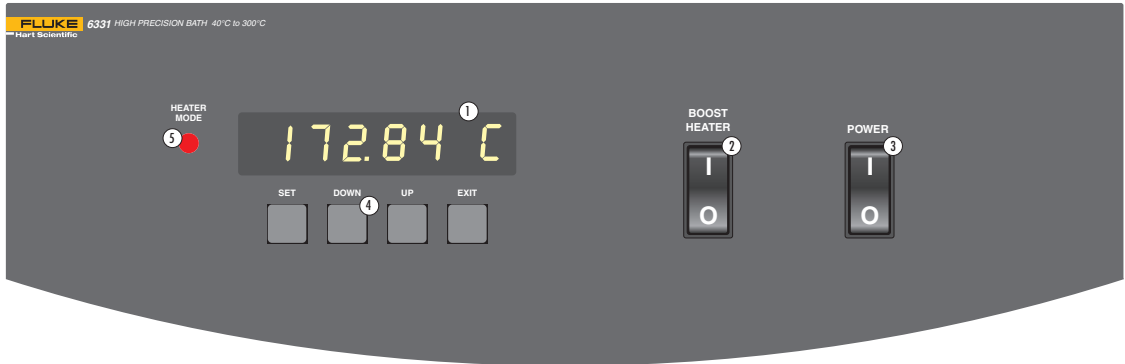

Figure 3 Front Panel Features
The following controls and indicators are present on the controller front panel (see Figure 3 below): (1) the digital LED display, (2) the boost heater switch, (3) the bath power switch, (4) the control buttons, and (5) the control indicator light.